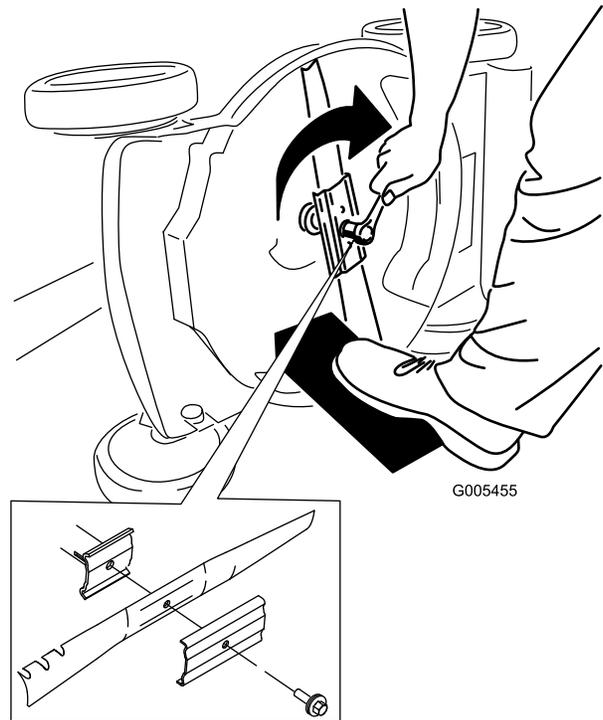

Figure 51
5. Install the new blade and all mounting hardware (Figure 51).